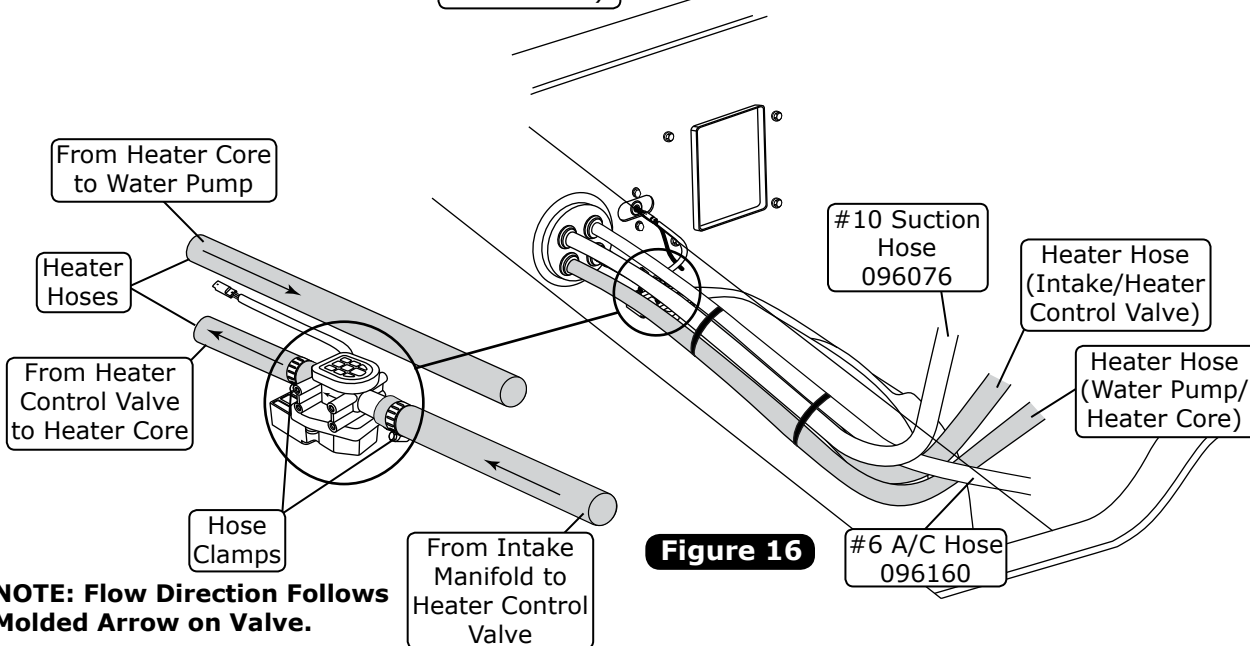

Figure 16
2. Locate the #10 compressor A/C hose. Lubricate (2) #10 O-rings (See Figure 15, above) and connect the #10 135° fitting with 134a service port to the #10 suction port on the compressor (See Photo 17, Page 19). Then route the #10 90° fitting to the #10 fitting on the evaporator (See Figure 13a, Page 17, & Figure 16, Page 19). Tighten each fitting connection.
3. Locate the #6 evaporator A/C hose. Lubricate (2) #6 O-rings (See Figure 15, above) and connect the #6 straight fitting to the #6 hardline coming through the core support from the drier (See Photo 17, Page 19). Then route the #6 90° fitting to the #6 fitting on the evaporator (See Figure 13a, Page 17, & Figure 16, Page 19). Tighten each fitting connection.
2. Route a piece of heater hose from the intake to the heater control valve, and from the heater control valve to the lower heater core fitting (See Photo 17 & Figure 16, below, & Figure 13a, Page 17). **NOTE: Install the heater control valve in line with the intake manifold (pressure side) heater hose, and secure using hose clamps. Also note proper flow direction.**